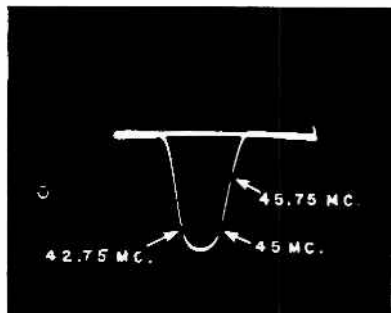

Fig. 17 Overall IF Response
10. With the test equipment set up as in Step 10, alternately adjust the converter plate coil, the 2nd IF and the 1st IF transformers until an overall response curve similar to Fig. 17 is obtained. If the proper response curve cannot be obtained, it may be necessary to retouch the 4th IF coupling adjustment or make a slight readjustment of the other stages to obtain the correct overall response curve.
IMPORTANT: The purpose of this procedure is to obtain a response curve similar to Fig. 17. The curves for the other stages may or may not be the same as those shown in the manual after the overall curve has been obtained.